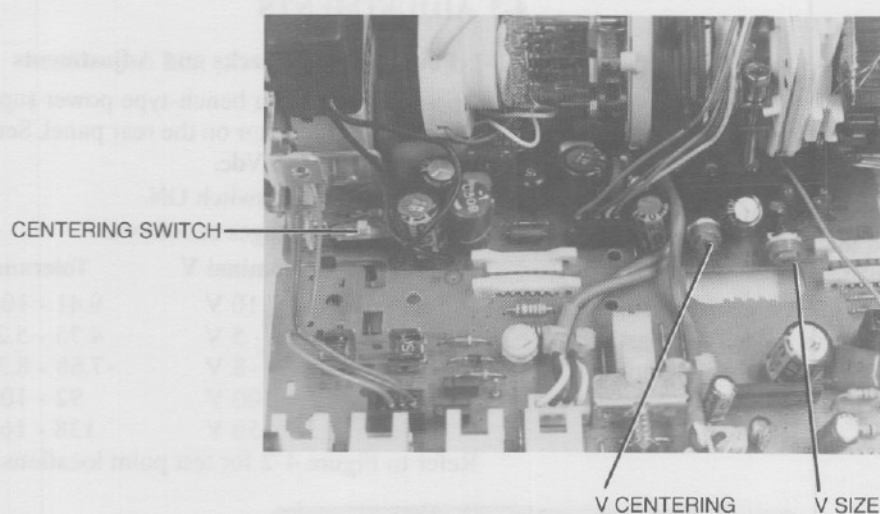

Figure 3-16. H and V deflection controls
2. Refer to Figure 3-16. Adjust V-Height, R407, to fill the screen vertically and for best circularity of the circle on the alignment pattern.
2. Refer to Figure 3-16. Set the H Center switch for best horizontal centering.